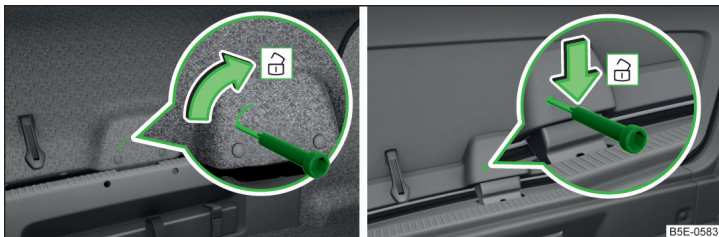

Fig. 227 Unlocking the boot lid: Version 1 / version 2
- Insert a screwdriver or similar tool into the recess or the opening in the trim » Fig. 227 as far as the stop.